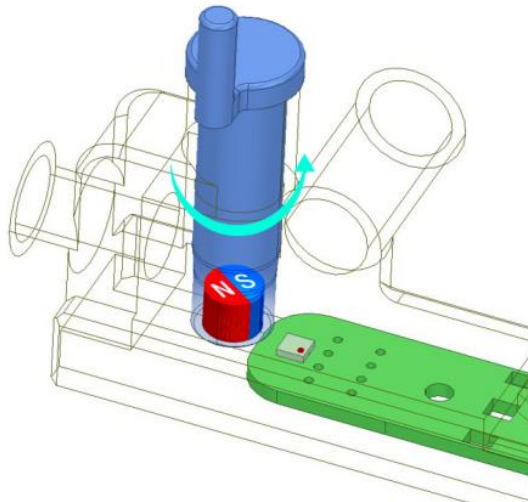

Figure 17: Off-Axis Knob Structure
- Install the structural components as shown in the schematic diagram of the off-axis knob in Figure 17.